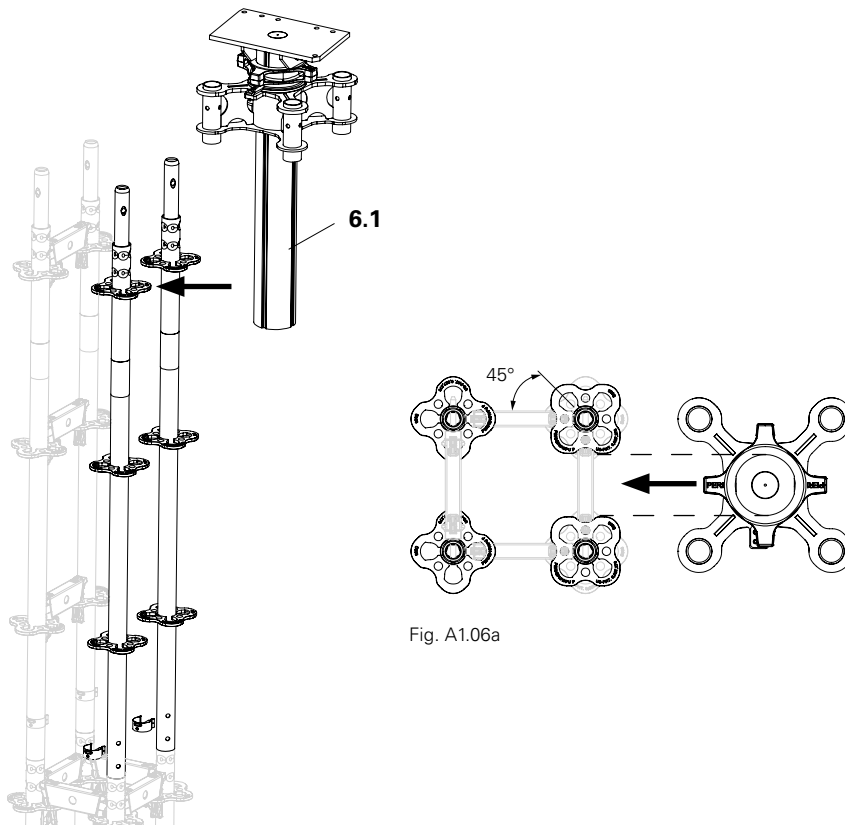

Fig. A1.06
4. Push the spindle tube (6.1) between the rosettes of the turned standards and put the head spindle on the standards. (Fig. A1.06)